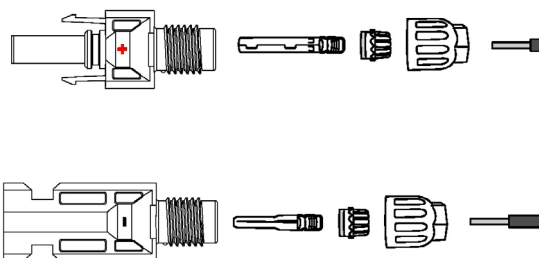

Fig. 17. Disassembling the connector.
- c. Remove the connector from the accessory bag, as shown in Fig. 17: